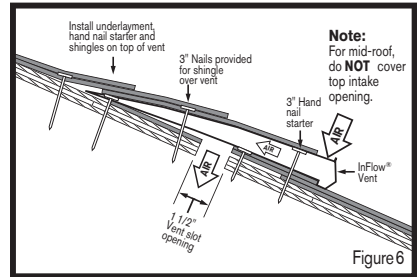

Figure 6
Step 11: Hand nail the starter and roofing shingles on top of the vent using the 3" nails provided. See Figures 6 and 7.
Note: Ensure all nails fully penetrate the wood deck and do not fall within the vent slot opening. Consult your shingle manufacturer for recommendations if needed. See Figures 6 & 7.